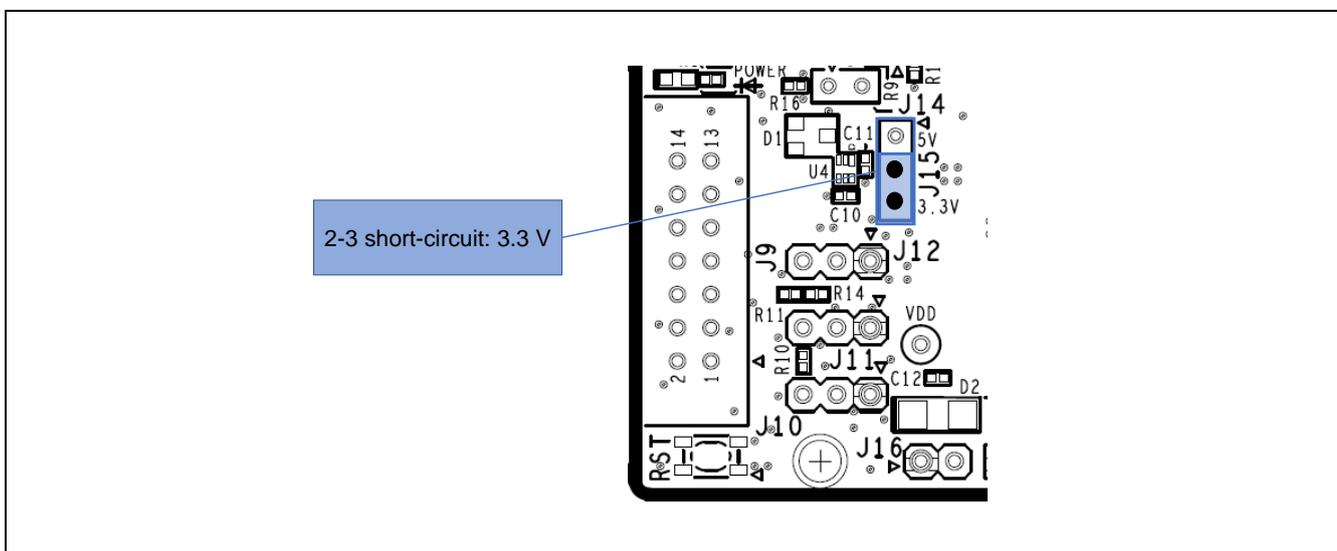

Figure 5-5 Setting of the Header to Select a 3.3-V Power Supply (Top Side)
- 2-3 of J15 being short-circuit selects a 3.3-V power supply (Figure 5-5).